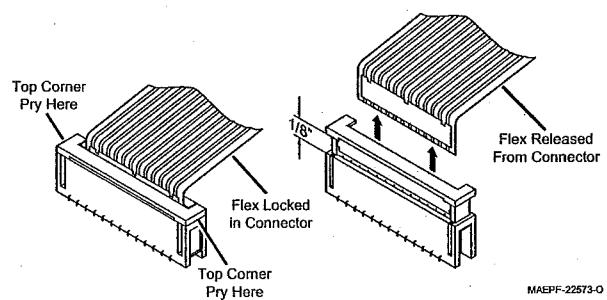

**Figure 3.3**
c Lay the chassis down, and rotate the front cover back and partially away from the chassis (See Figure 3.3).
2. Orient the front cover assembly with the chassis, and insert the front cover/display flex connector into the locking connector of the controller board (refer back to Figure 3.3). Secure the connection. View the flex connection at a slight angle from the top of the radio and ensure that the flex connector is fully seated into the locking connector as described in step 3 of "Control Top/Front Shields..." above.